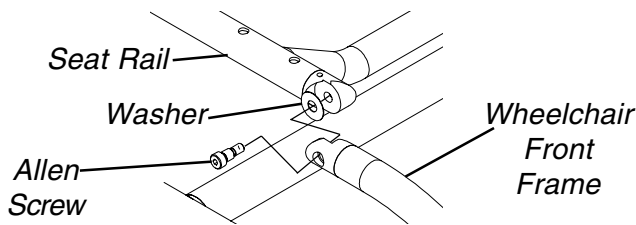

FIGURE 3 - REPLACING SEAT FRAME - A-6/A-6S ONLY
4. Remove the locknut, two (2) washers, stop and screw from the rearmost end of the seat frame.
9. Remove two (2) allen screws and washers that secure front of seat frame to wheelchair front frame.
11. Align front of seat rail with wheelchair front frame as shown in FIGURE 3.
12. Install two (2) allen screws and washers to secure front of seat rail to wheelchair front frame.
14. Install the screw, stop, two (2) washers and locknut onto the rear of the seat frame.
16. Secure the FRONT of the back angle bracket to the seat frame with the screw, washer, nylon spacer, coved spacer, washer and locknut as shown in FIGURE 3.